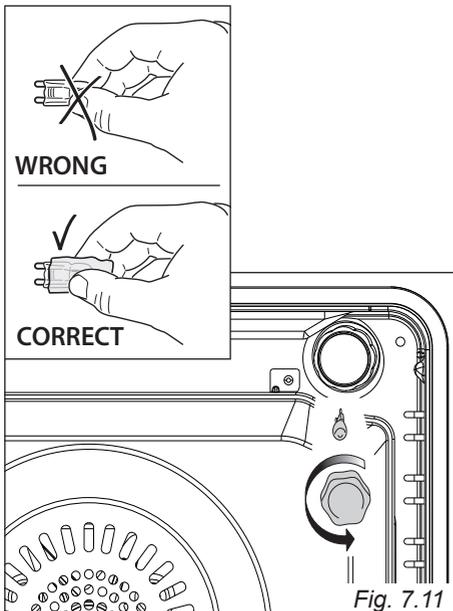

Fig. 7.11
- Remove the protective cover (fig. 7.11 - 7.12).